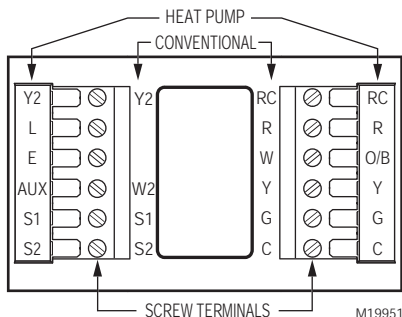

Fig. 7. Selecting terminal identifications for system type.
1. Select set of terminal identifications (Table 1) that corresponds with system type (conventional or heat pump in Fig. 7).